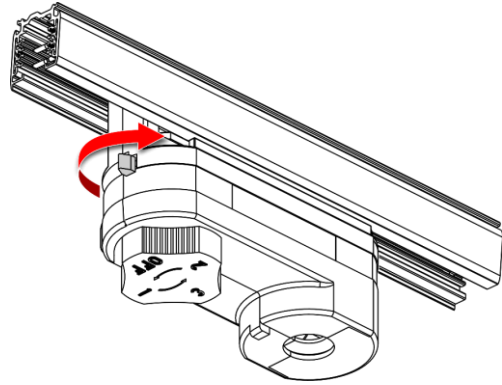

Fig. 09
- 04) Insert the **track adapter (01)** in the track and push it until it snaps into place.
05) Turn the **track lock (02)** clockwise to lock the device in the track, as shown in Fig. 09.